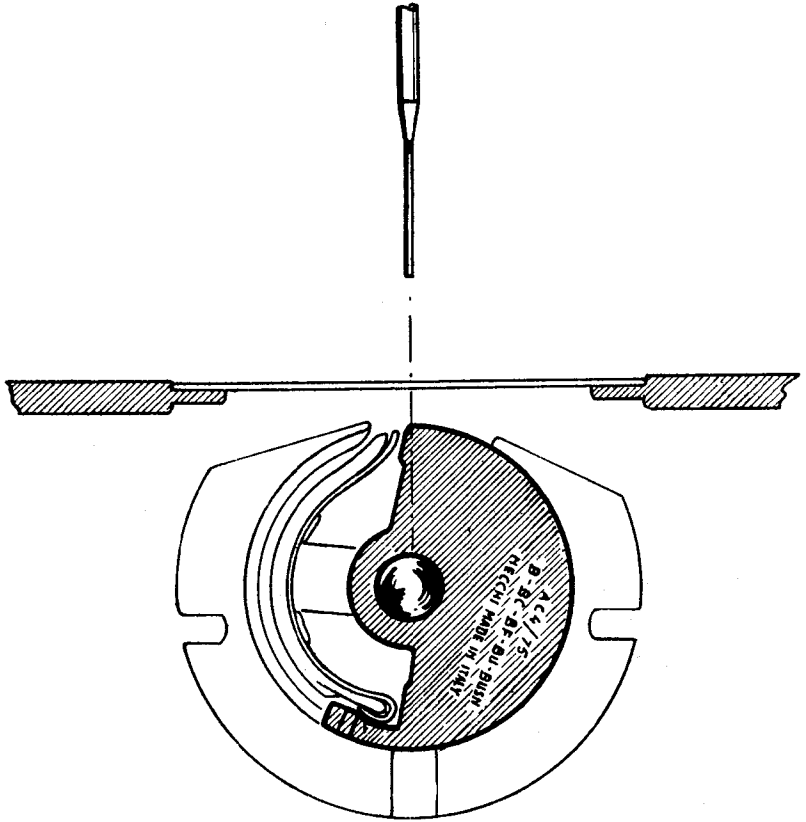

Fig. 18
- a. Turn the balance wheel by hand and bring the needle bar to its highest position (Fig. 18).
- d. Insert the shuttle-shaped gauge AC 4/75 into the shuttle race (Fig. 18).